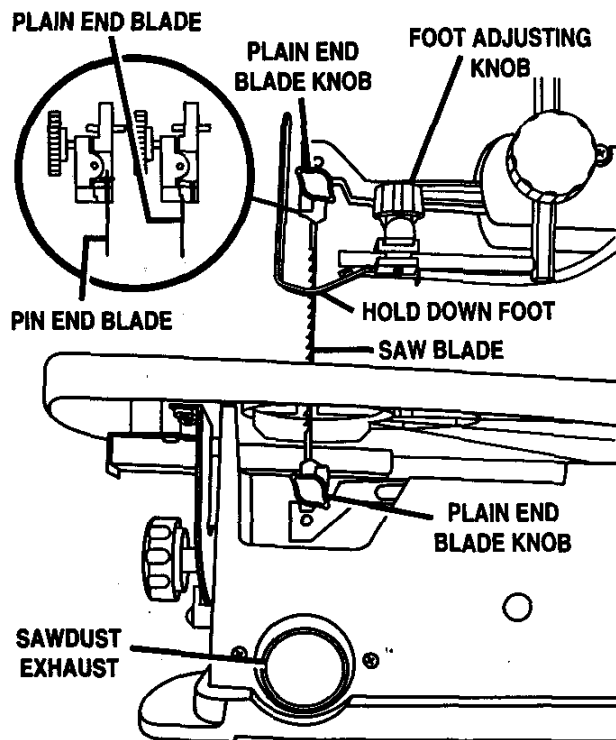

Fig. 13
See Figure 13.
- Loosen the foot adjusting knob. *See Figure 13.*